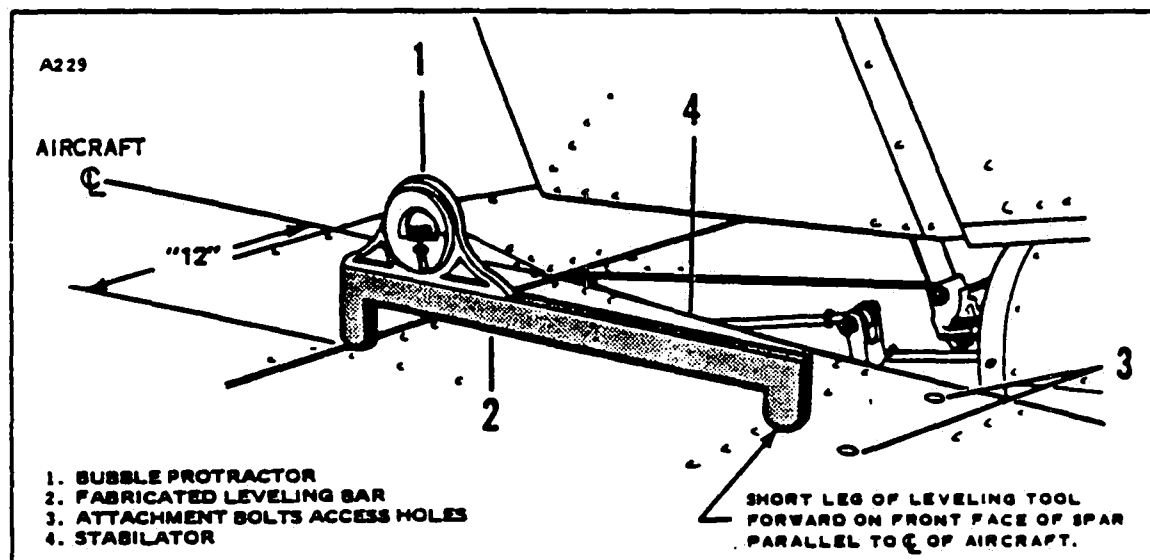

Figure 5-1. Stabilator Rigging Tool
1. Check the travel by placing a rigging tool on the upper surface of the stabilator as shown in Figure 5-1. (This tool may be fabricated from dimensions given in Figure 5-19 of Part I.)